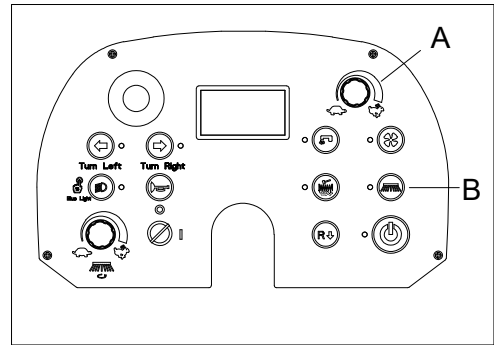

Figure 27
- Adjust speed adjusting knob (A, Figure 27) to minimize driving speed.
- Press side broom button (B, Figure 27) to lower the side broom and turn it on for about one minute by pressing the accelerator pedal.